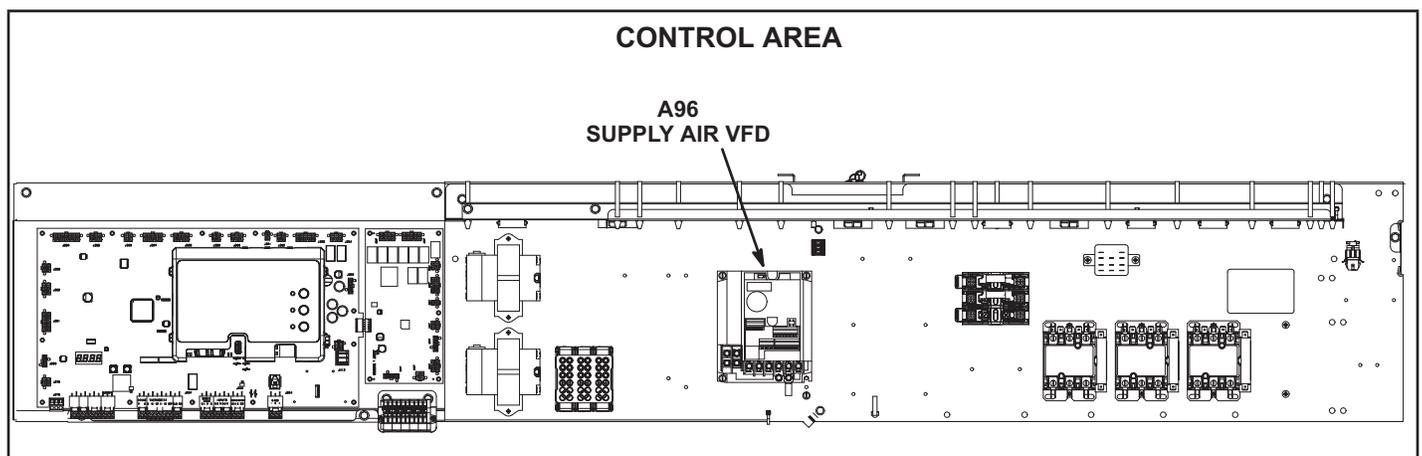

FIGURE 37
Units contain a supply air blower equipped with a variable frequency drive A96 (VFD) which varies supply air CFM. The supply air VFD (A96) is located in the control area. See FIGURE 37.
- 4 - Locate the A55 Unit Controller. Refer to FIGURE 37.